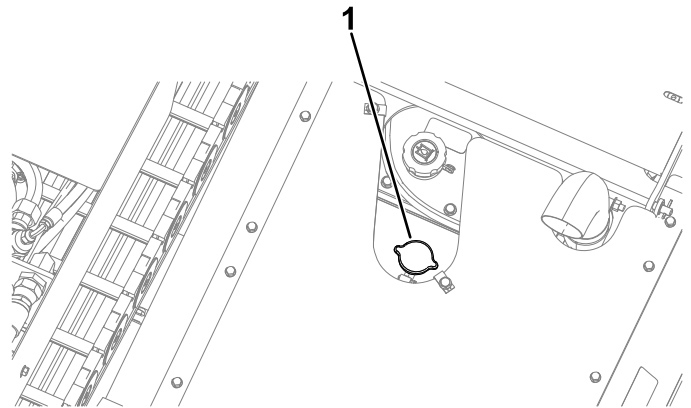

Figure 145
3. Remove the radiator cap (Figure 145).
5. Install the radiator filler cap, ensuring that it is tightly sealed (Figure 145).